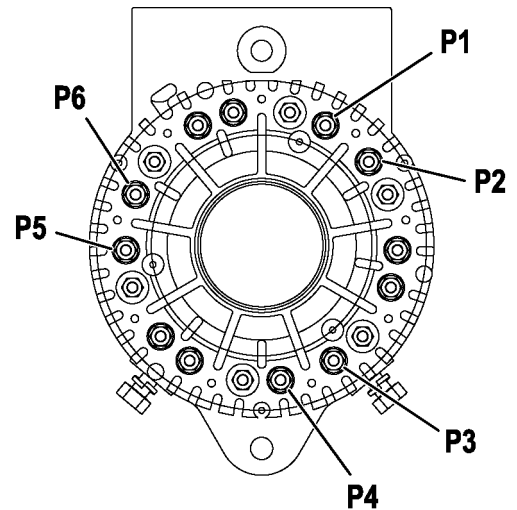

FIGURE 10-15. PHASE LEAD LOCATIONS
2. Connect one meter lead to phase lead P1 (Figure 10-15), connect other meter lead (one at a time) to each phase lead P4, P5, and P6. Repeat for P2 and P3.